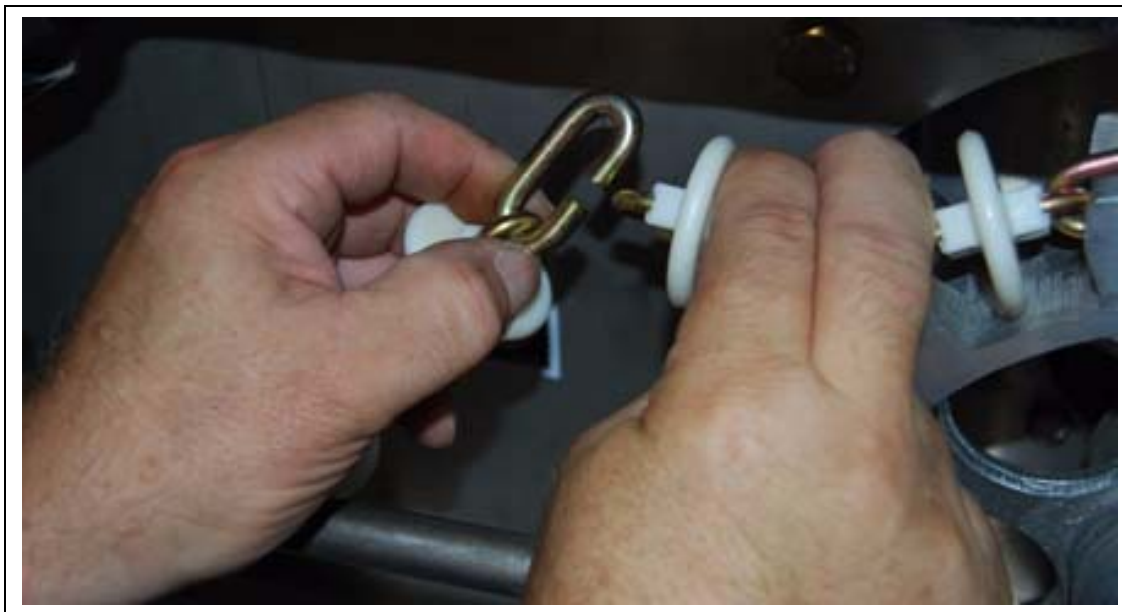

Figure 13C
1. Start installing chain at one end of the drive unit so after all the chain is installed the final connection can be made inside the drive unit. (See Figure 13C.)